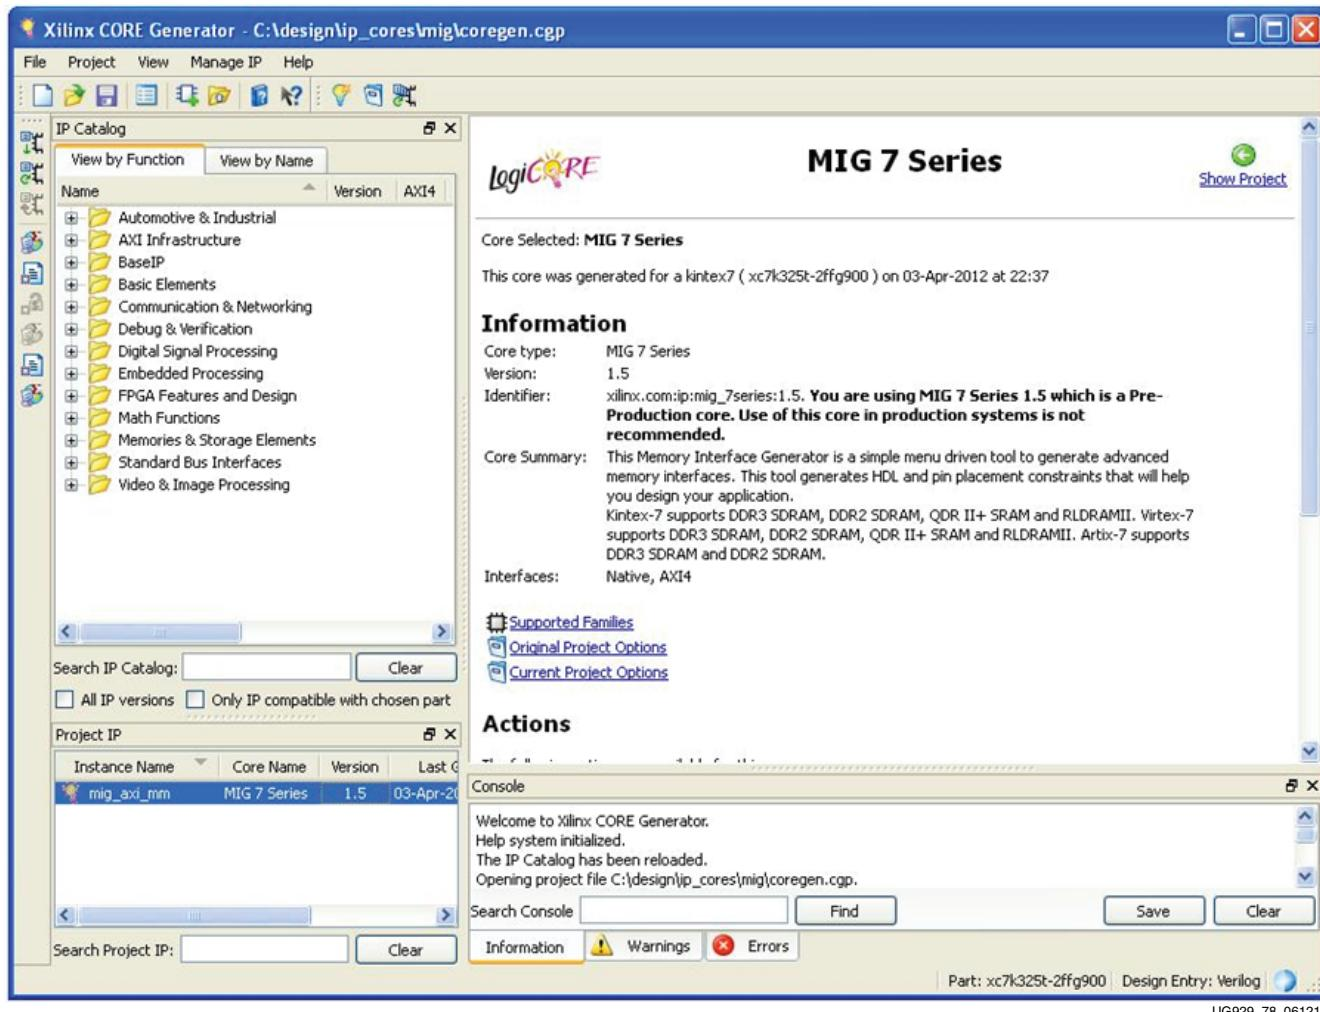

Figure 2-18: MIG IP Core Generation
5. Double click instance name `mig_axi_mm` (as shown in Figure 2-18). This pops up the Memory Interface Generator GUI with the configuration defined by the `mig_axi_mm.xco` and `mig.prj` files.